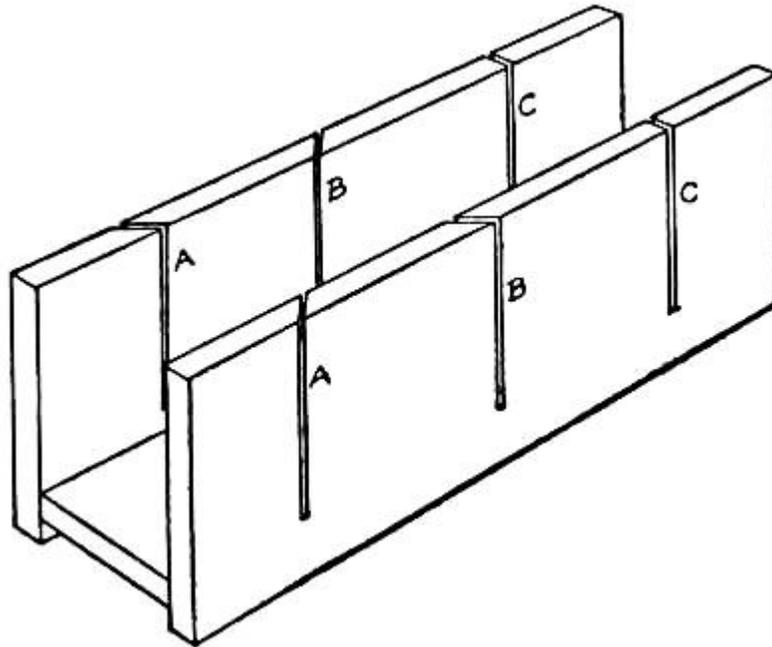

FIG. 12.—A Mitre-box.
**A Mitre-box** for cutting mitres in large work, and this may be made as shown in Fig. 12. Cut two pieces of seven-eighths inch maple, or other hard wood, twenty inches long by six inches wide, and one piece twenty inches long by four inches wide. Nail the six-inch pieces to the edges of the four-inch piece as shown in the drawing, after which you are ready to cut the mitres. These should be laid out similar to those on the bench-hook, by means of the mitred try-square or the bevel. With the blade of the try-square or bevel extending across the top edges of the side-pieces, mark off forty-five degree lines at *A* and *B*, and a ninety degree line at *C*, after which square the lines down both inner and outer face of the side-pieces. When the lines have been accurately drawn, it is a simple matter to make the kerfs, if you have had any practice in sawing and can keep to a line.